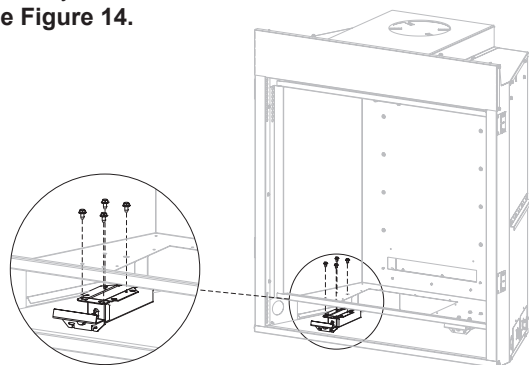

Figure 14
11. Remove the four #10 x 1/2 screws securing the left latch assembly to the underside of the firebox and set aside. **See Figure 14.**
14. Reinstall the left latch assembly removed in step 11. **See Figure 14.**